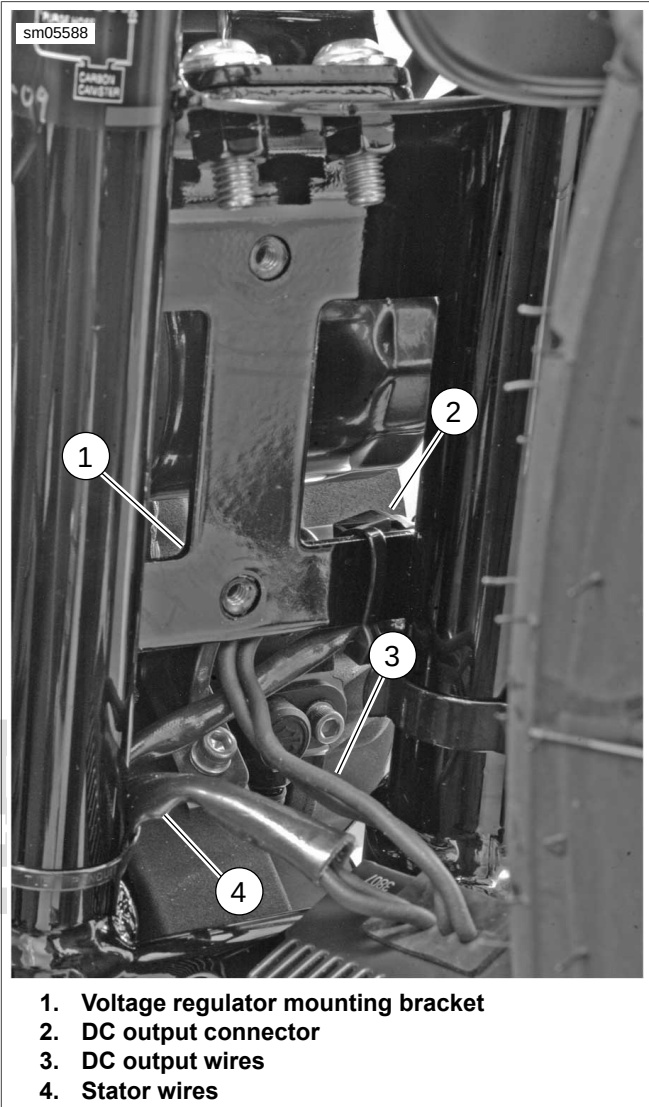

Figure 6-95. Voltage Regulator Wire Routing: XR 1200X
1. See Figure 6-95. Position voltage regulator close to mounting bracket (1). Orient regulator so cooling fins face forward and wiring harnesses exit regulator body toward right side of vehicle.
2. Thread DC output wires below mounting bracket. Route DC output connector (2) toward left side of vehicle.
3. Route stator wires (4) down along between right frame downtube and body of voltage regulator. Route stator harness connector [46A] toward right side of vehicle.